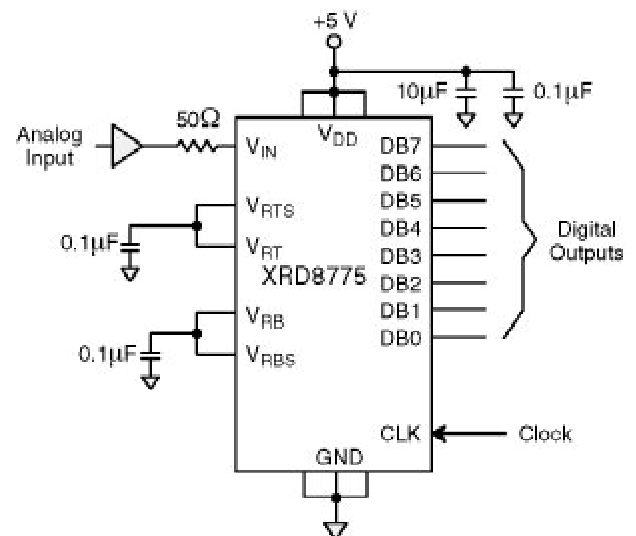

Figure 5. Typical Circuit Connections
- See V_{IN} input equivalent circuit (Figure 5). Switched capacitor analog input requires driver with low output resistance.
The reference can be biased internally by shorting V_{RT} to V_{RTS} and V_{RB} to V_{RBS} . This will generate $0.6V$ at V_{RB} and $2.6V$ at V_{RT} (see Figure 5.).